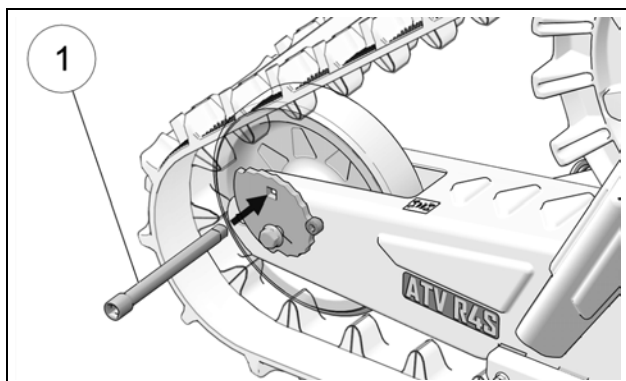

Figure 26
- Insert ratchet wrench extension with 3/8" drive (1) in tensioner cam's square hole. Figure 26.